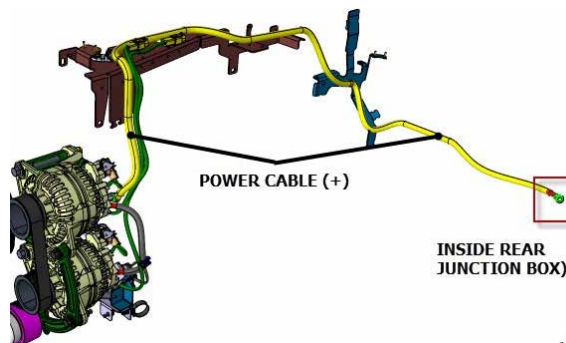
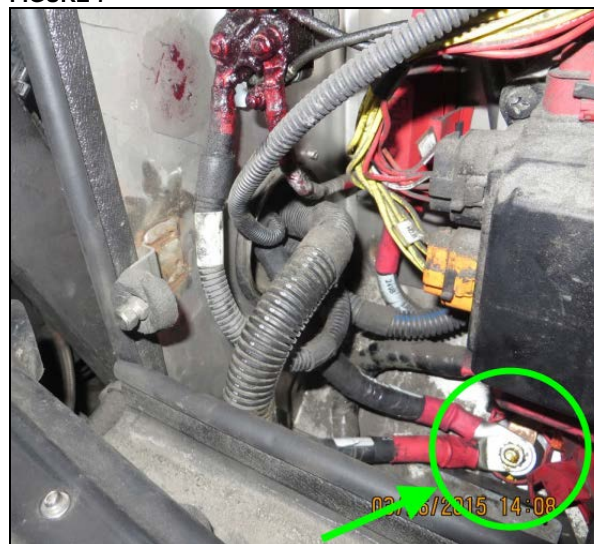

FIGURE 7
FIGURE 8: X3 SERIES - POWER CABLE 102A CONNECTED TO BUSSMAN JUNCTION BLOCK - **TORQUE 10 lbf-ft. APPLY COLOR GUARD RUBBER COATING**
5. **Disconnect power cable (circuit 102/102A) from the 24VI junction block or relay R1 as applicable in the rear junction box/main power compartment (FIGURE 8 & FIGURE 10).**
9. Replace the existing 2/0 gauge power cable (circuit 102 or 102A) (FIGURE 7) with new 3/0 power cable (FIGURE 2). This cable is routed from the upper alternator B1+ stud terminal up to the 24VI junction block in the rear junction box/main power compartment (FIGURE 8, FIGURE 9, FIGURE 10 & FIGURE 11).